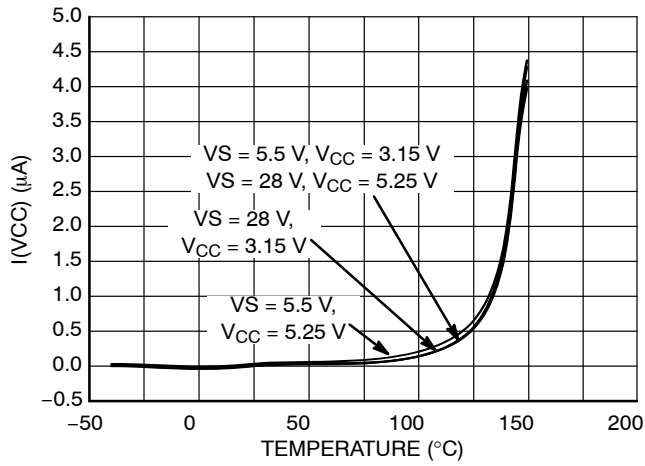

Figure 16. $I(V_{CC})$ vs. Temperature
- Refer to Figure 16 for the V_{CC} standby current behavior.